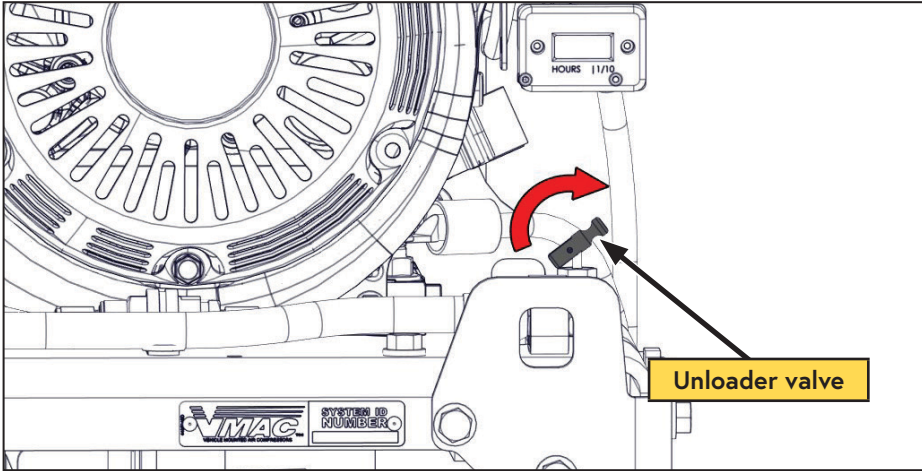

Figure 15 — Unloader valve
- 7) Once the engine has reached normal operating temperature, release the tension on the unloader valve (Figure 15).